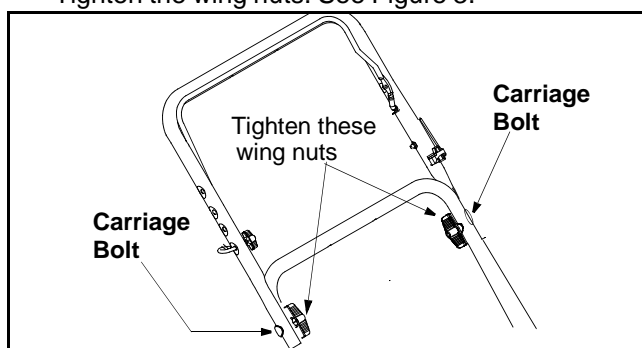

Figure 3
- Make sure that carriage bolt through the upper and lower handles on each side is properly seated. Tighten the wing nuts. See Figure 3.